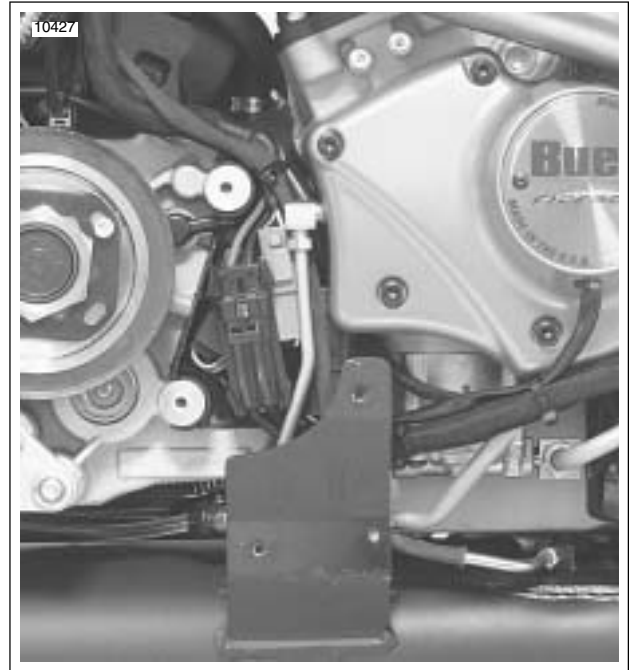

Figure 3-55. Correct Routing of Wiring Harnesses
- See Figure 3-55. The interactive exhaust cable is routed down behind the vent line on the gearcase cover.